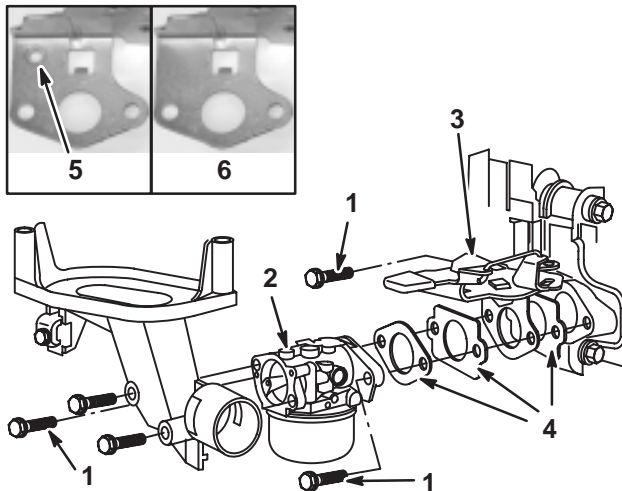

Fig. 23 – Removing Carburetor
3. On current production engines, the control bracket is held on with three (3) screws, of which two (2) were removed to remove the carburetor, Fig. 23. On early production engines, only two (2) screws held both carburetor and control bracket. Reinstall both screws to retain control bracket until carburetor is reinstalled.